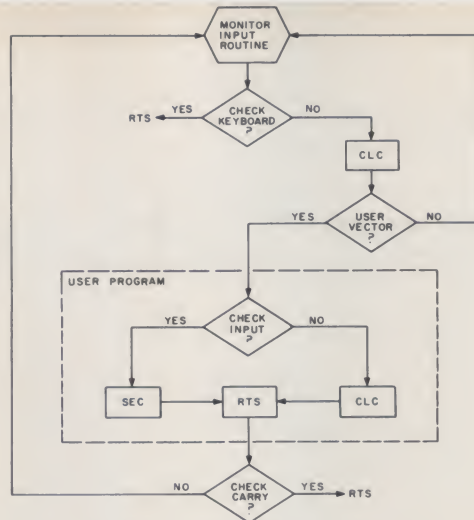

Fig. 2. Flowchart for User Input Function.
tomatically start executing. Be sure to end your subroutine with an RTS (39) and don't trap the routine; otherwise you can't use the keyboard until you have had an input from the peripheral and it falls back through the loop. By the way, put the input character in the A accumulator. For further understanding of the routine, look at the flowchart in Fig. 2.